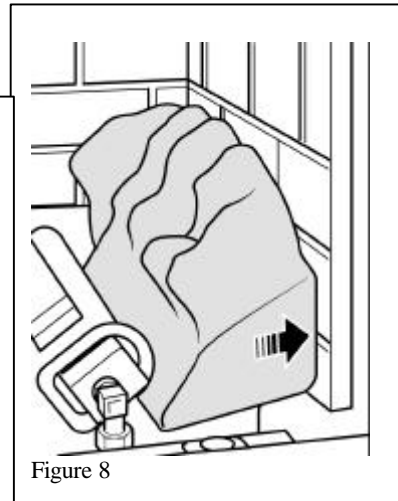

Figure 8
6. Fit the rear base piece into position behind the burner and position it so that its rear is flat against the rear ceramic wall. (See figure 8).